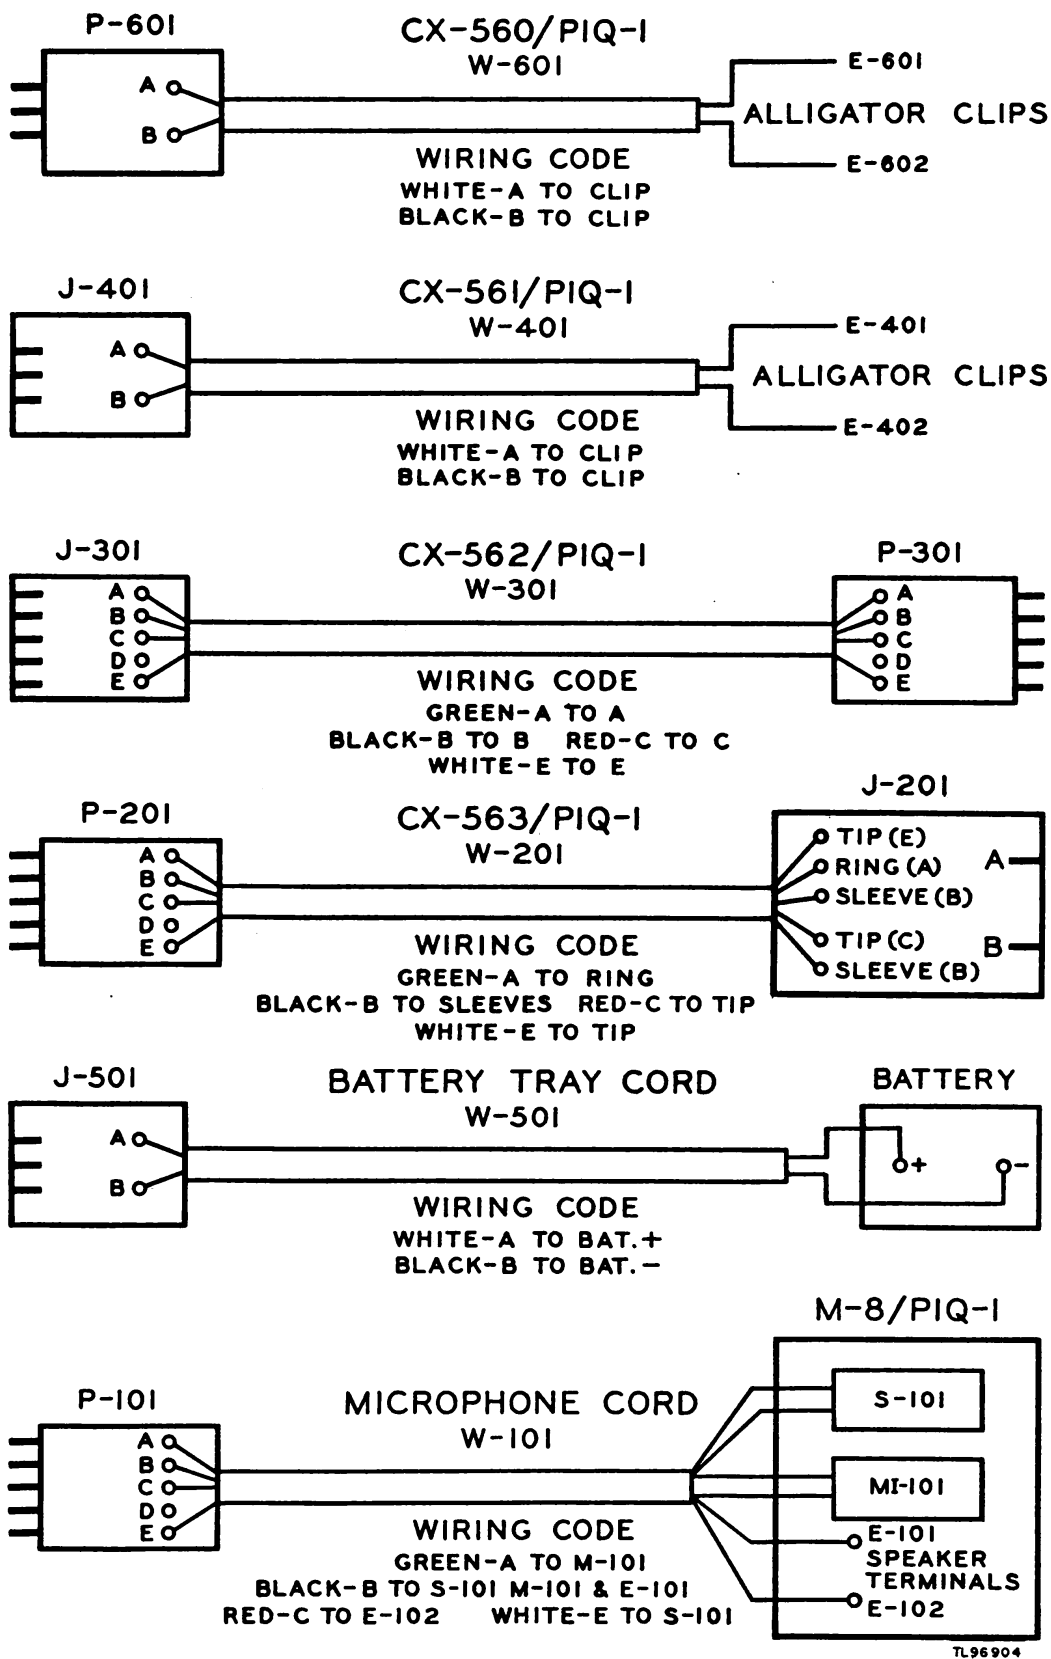

Figure 20. Cords wiring diagram.
- (5) Operator's trouble-shooting chart (par. 51).
- (6) Repairman's trouble-shooting chart (par. 52).
- (7) Repairman's trouble-shooting chart (tube troubles) (par. 53).
- (8) Cords wiring diagram (fig. 20).